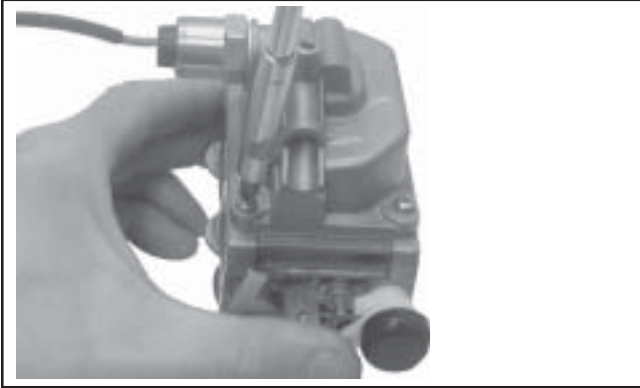

Figure 5-21. Installing Fuel Bowl.
9. When the proper float height is obtained, carefully reinstall the fuel bowl, using new O-Rings onto the carburetor. Secure with the four original screws. Torque the screws to $2.5 \pm 0.3 \text{ N}\cdot\text{m}$ ($23 \pm 2.6 \text{ in. lb.}$). See Figure 5-21.